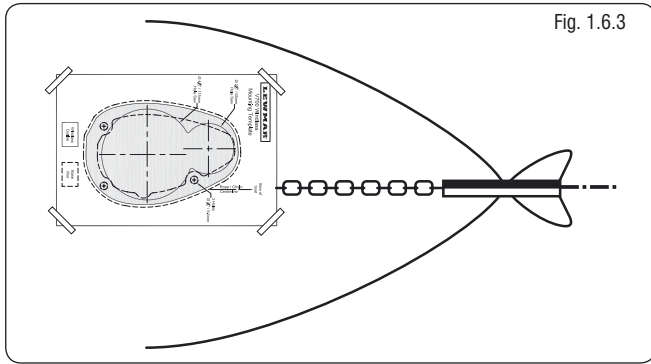

Fig. 1.6.3
- Place the windlass on the deck and decide upon a position for it with reference to the vessel's bow roller (Fig. 1.6.2) and the chain locker below. Rode lead from the roller should ideally be fed horizontally back to the top of the gypsy and along its centerline (Fig. 1.6.3).